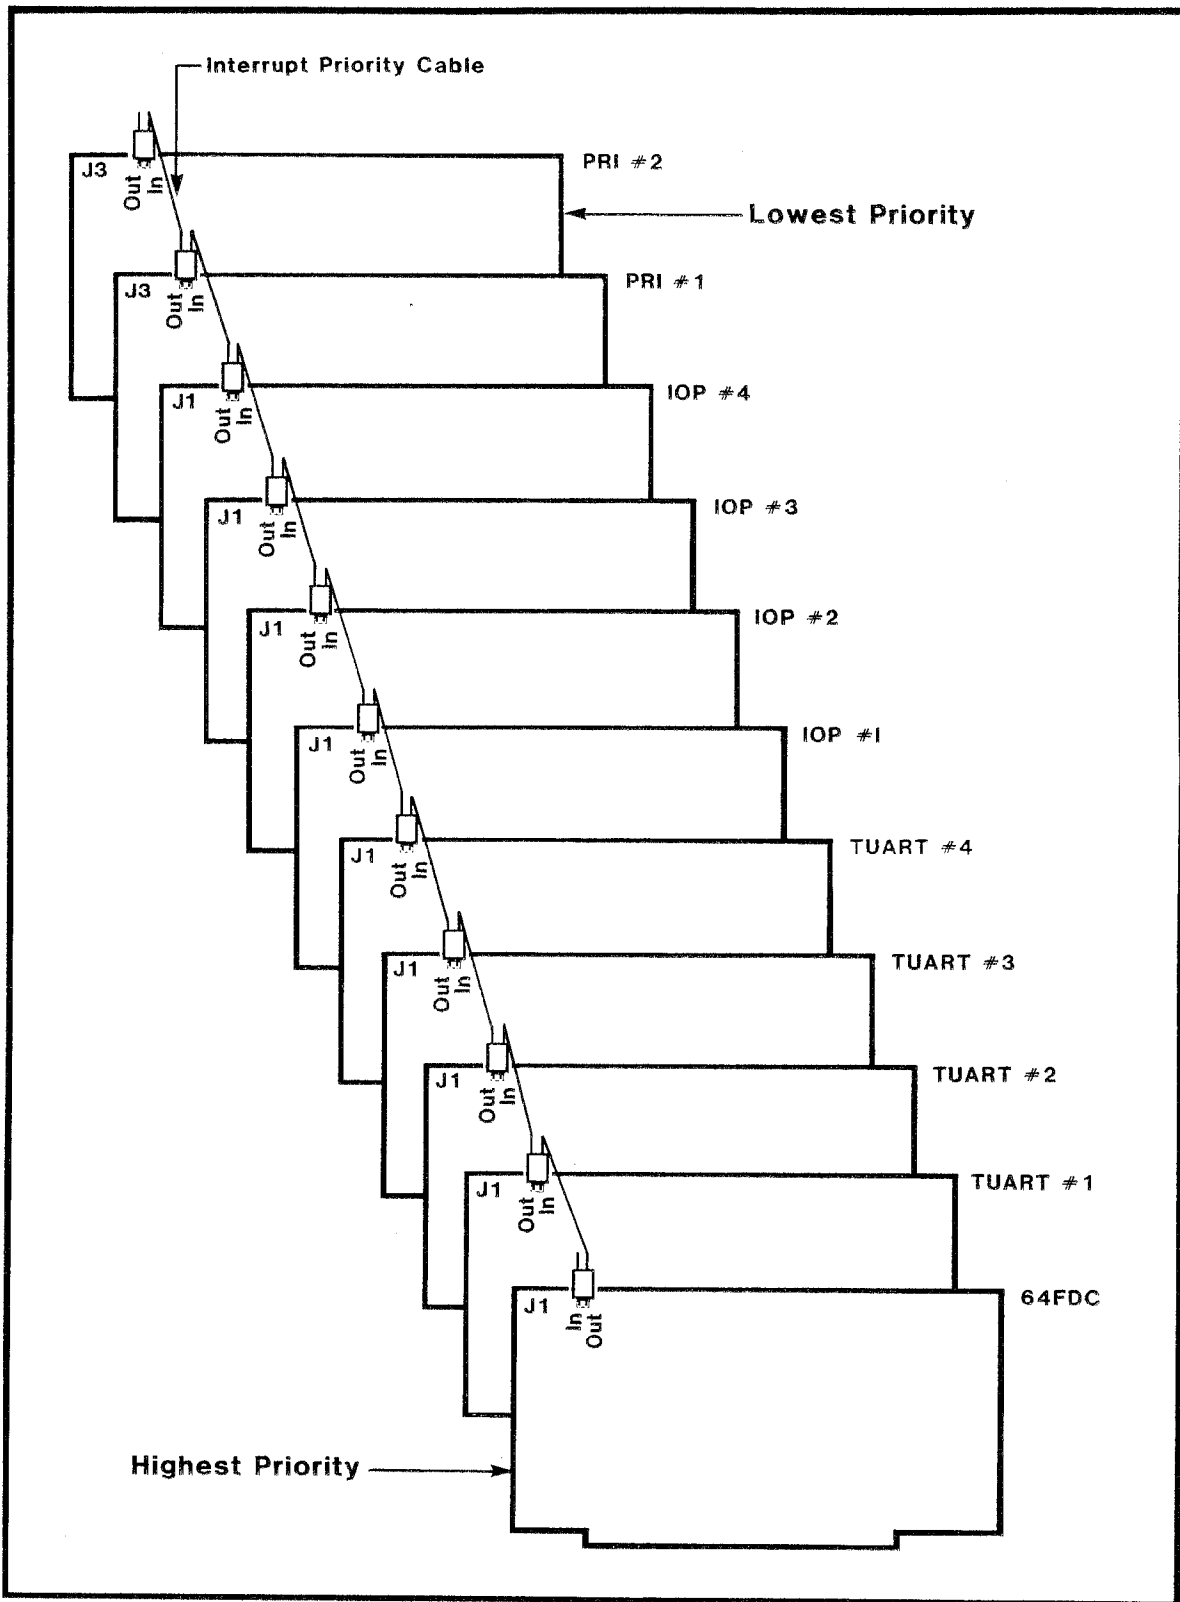

Figure 6-9: S-100 BUS INTERRUPT PRIORITY WIRING
If your Cromix System contains two or more 64FDC, 16FDC, TU-ART, or IOP interface boards in any combination, install an S-100 Bus interrupt priority cable (Cromemco part number 519-0029) as shown in Figure 6-9 to define an S-100 Bus interrupt priority for each board. Note the following points:
1. The wiring of Figure 6-9 assigns the 64FDC/16FDC interface board the highest interrupt priority, TU-ART 1 the next highest interrupt priority, and so on, down to PRI 2 with lowest interrupt priority.